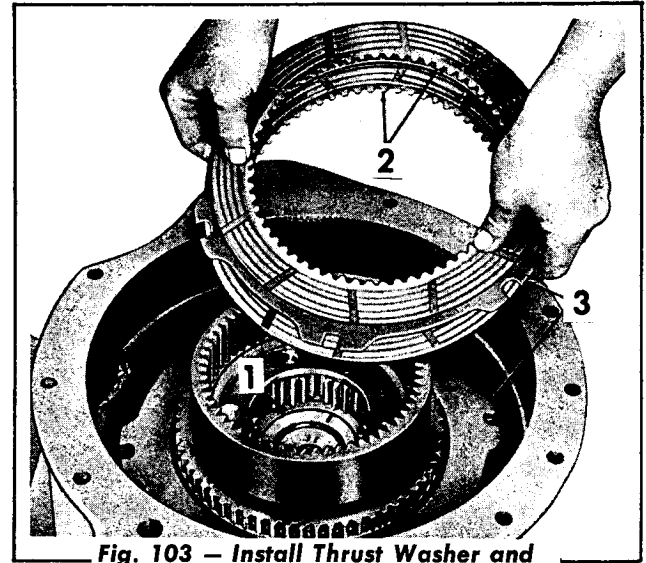

Fig. 103 — Install Thrust Washer and Forward Clutch Plates
19. Install the thrustwasher (Fig. 103) inside the forward carrier. Beginning with an ex-